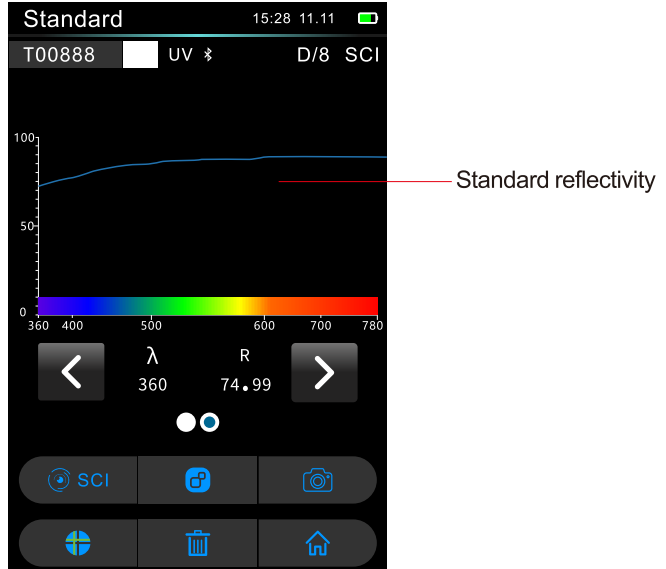

Figure.10 Standard reflectivity
- 10) **Wavelength switch button:** As shown in Figure 10, click **◀** or **▶**, the wavelength and reflectivity of the current sample will be switch at the interval of 10nm. At this time, the optional chromaticity index is reflectivity. If it is other options, this interface displays other chromaticity index values.